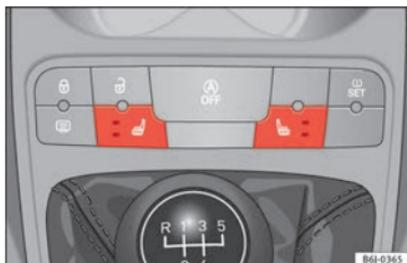

Fig. 142 Front seat heating switch.
- Press the corresponding switch » Fig. 142 to switch on the seat heating.
- Press once to connect the heating at maximum force. The two LEDs illuminate » Fig. 142. After 15 minutes of high inten-